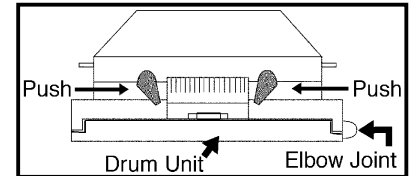

Figure 1
1. With handle of toner unit toward you, press gray clips toward center. Release drum unit by pulling down and out (Fig. 1).